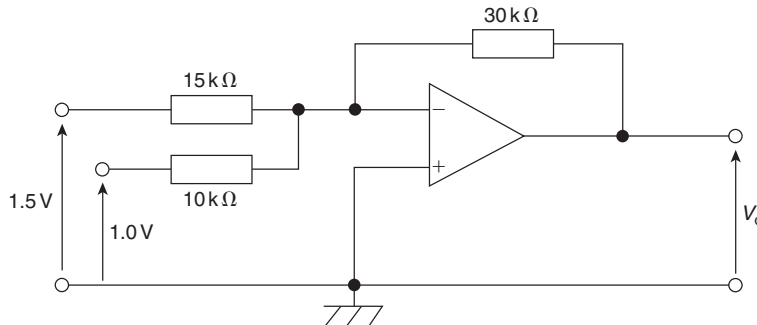

Figure RT5.2
- In the differential amplifier shown in Fig. RT5.2, determine the output voltage,  $V_o$ , when: